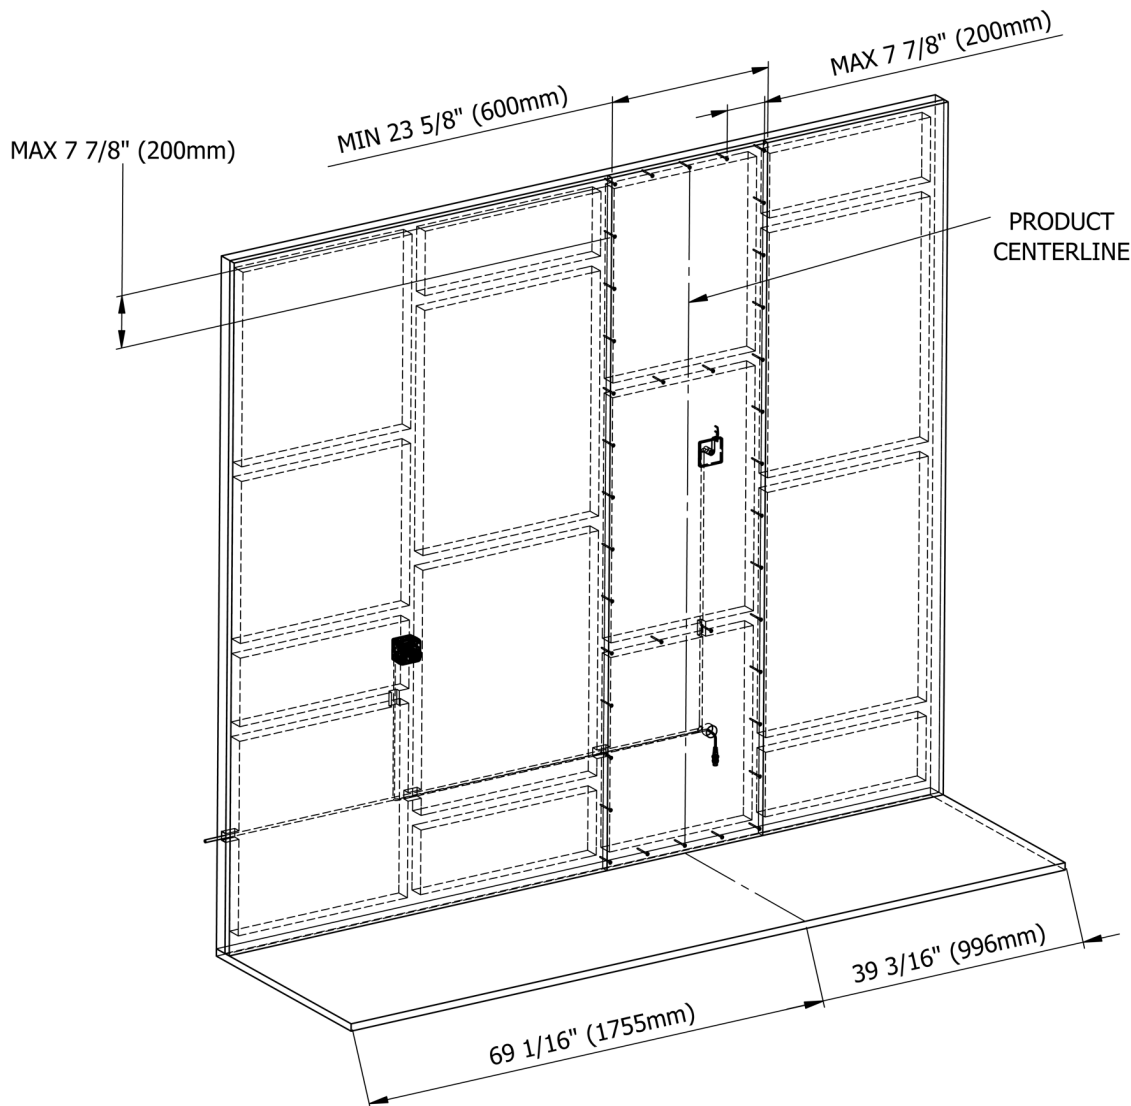

Fig 11.1 Preparing the wall
- The marine plywood must be from floor to ceiling and secured every 7 7/8" (200 mm) around the perimeter and to at least 2 supporting horizontal cross members as shown in Fig 11.1.
- For wooded stud walls additional framing will not be required as long as framing behind the installed unit matches that shown in Fig 11.1.